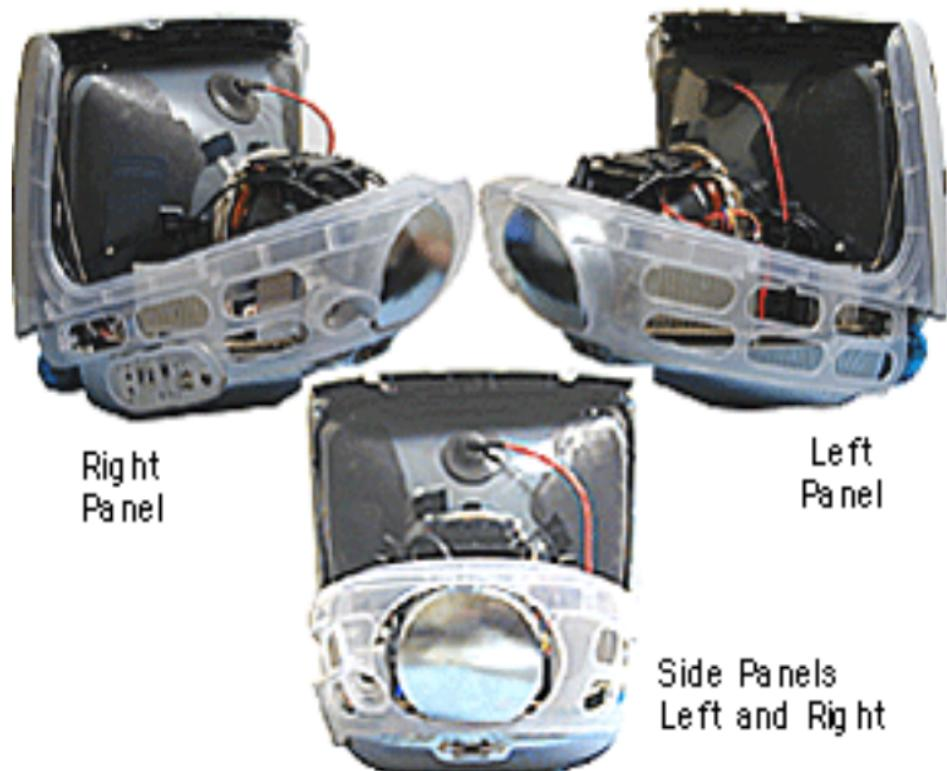

**Figure 3 RGB Cable Connection**
3. Check the connection of the RGB cable to the logic board. (see Figure 3).